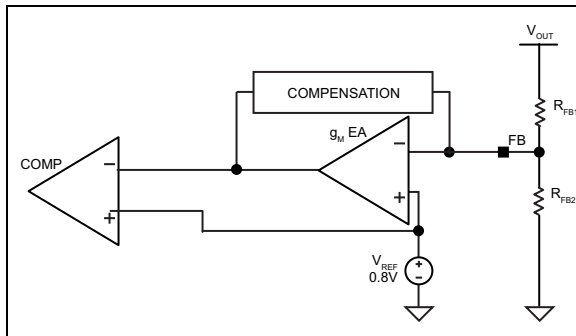

FIGURE 4-1: Output Voltage Sense via FB Pin.
As shown in Figure 4-1 (in association with Equation 4-1), the output voltage is sensed by the MIC45205 feedback pin (FB) via the voltage divider R_{FB1} and R_{FB2} and compared to a 0.8V reference voltage (V_{REF}) at the error comparator through a low-gain transconductance (g_m) amplifier. If the feedback voltage decreases, and the amplifier output falls below 0.8V, then the error comparator will trigger the control logic and generate an ON-time period. The ON-time period length is predetermined by the "Fixed t_{ON} Estimator" circuitry: